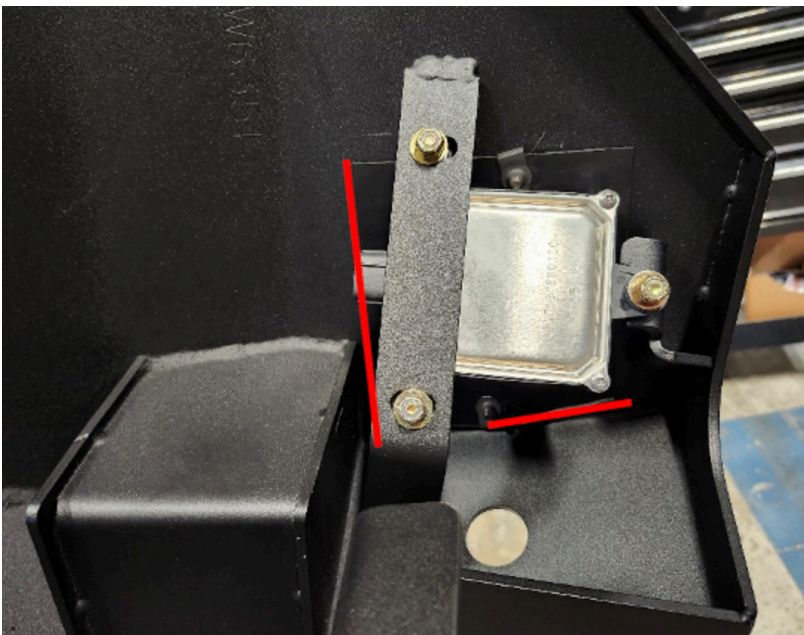

Figure 11
12. Once blind spot monitor is installed, hold black plastic sheet (61784) over sensor opening and mark appropriate size to fully cover opening and mark mounting holes in bumper on plastic sheet. (Figure 11)